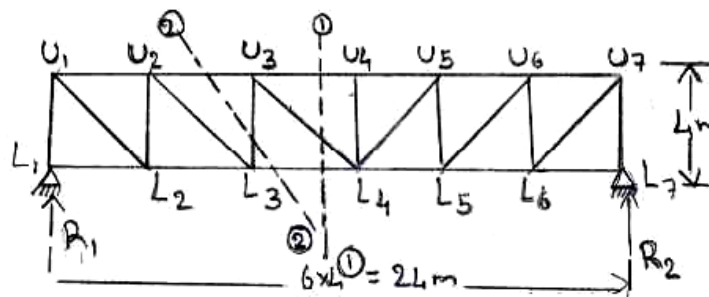

Figure 8
8. Draw the influence line diagram for forces in the members  $U_3L_4$ ,  $U_3U_4$  and  $U_3L_3$  of the frame shown in Figure 8 and find the maximum forces developed, when uniformly distributed load of intensity 40 kN/m, longer than the span moves from left to right on bottom chord. [16]